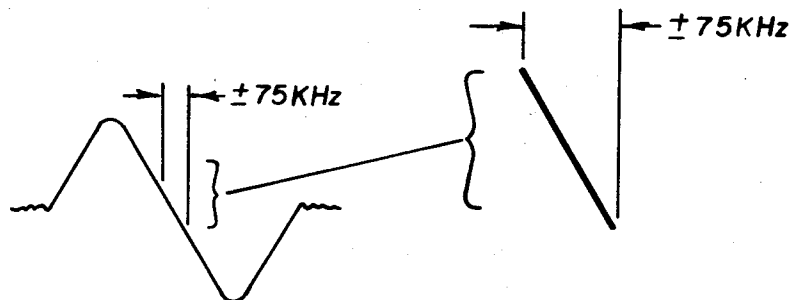

Figure 4
5. To align the FM Detector, with the FM generator connected as in Step 1, move the oscilloscope to the record output jack on rear panel. Reduce the modulation to  $\pm 75$ KHz and connect a DC VTVM to the detector output (4-channel adapter jack). Adjust the top core of the detector transformer (T9) for a zero indication on the DC VTVM and the bottom core of the detector transformer for maximum gain and linearity (see Figure 4).